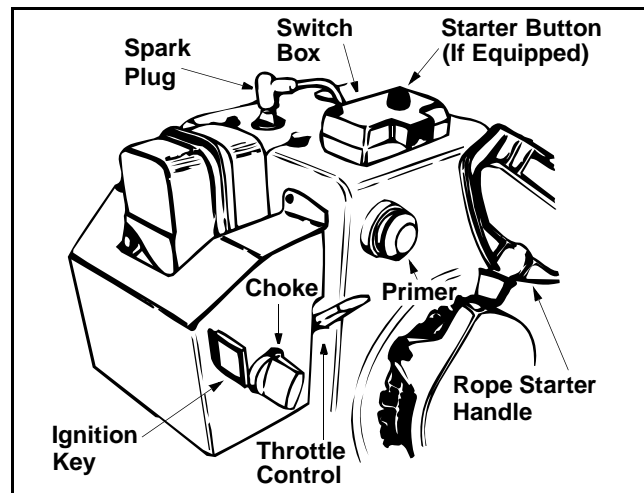

Figure 12
4. Move throttle control up to FAST position. Insert ignition key into slot. Be certain it snaps into place. Do not turn key. See Figure 12.
3. Push starter button to crank engine. As you crank the engine, move choke knob to FULL choke position. (cold engine start) See Figure 12.